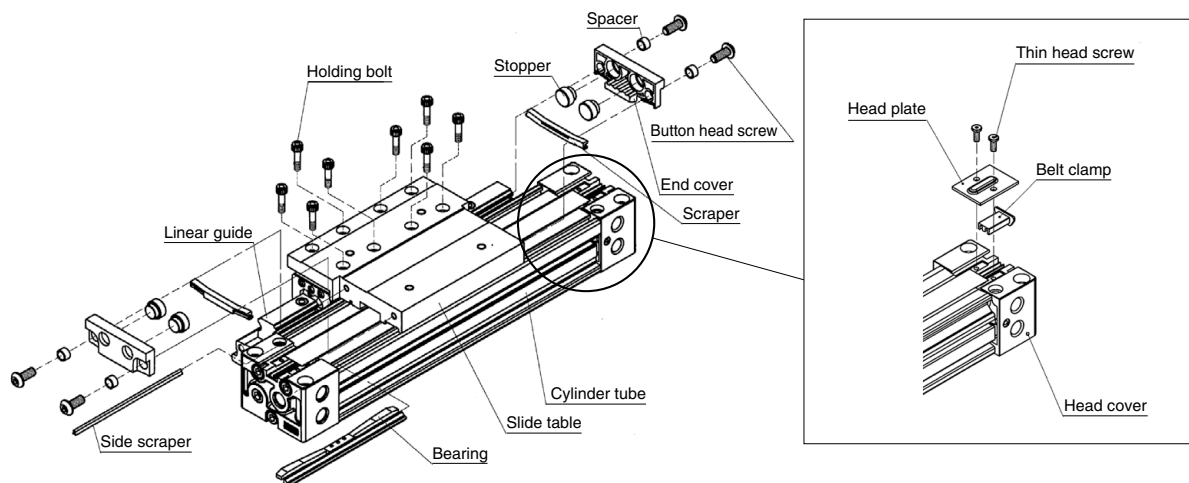

Fig. 1
- a. Remove the thin head screws on the top surface of the head cover (in 2 locations on each side, 4 in total), and then remove the head plate and belt clamp. (Refer to Fig. 1.)
- b. Remove the holding bolts on the end cover (on both sides of the slider), and then remove the end cover. (Refer to Fig. 1.)